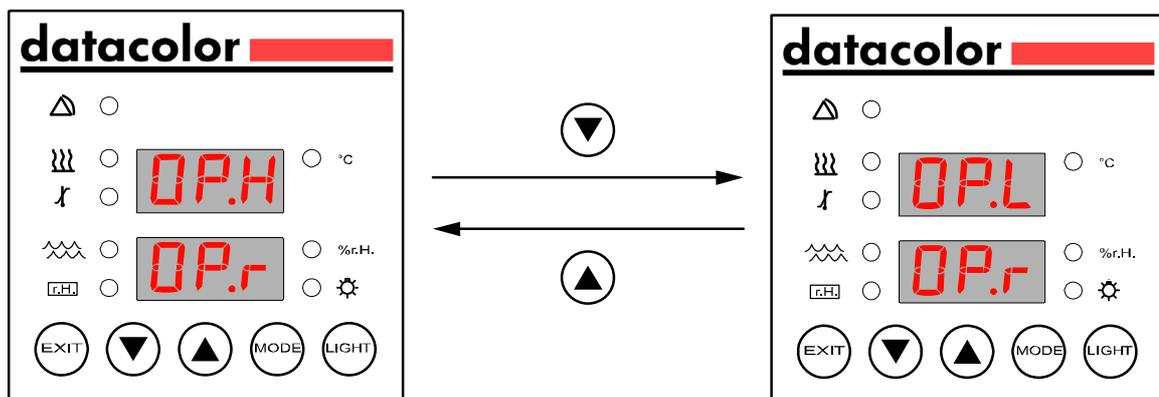

Figure 7: Locking and unlocking of set up mode of the operating parameters
- Press the  and  buttons simultaneously for 3 seconds to move from the basic display to the menu for selecting the Conditioner’s operation modes. In the upper display the value “OP.H” for “operating mode hand” is displayed (Figure 7).
- Press button  to enter the “operating mode lock”. In the upper display the value “OP.L” for “operating mode lock” is displayed (Figure 7). The value “OP.L” can only be selected, if a password is set via parameter “PA.H” (Table 3 on page 30 or Table 4 on page 31).
- Press button  to enter the "operating mode hand". In the upper display the value "OP.H" for "operating mode hand" is displayed (Figure 7).